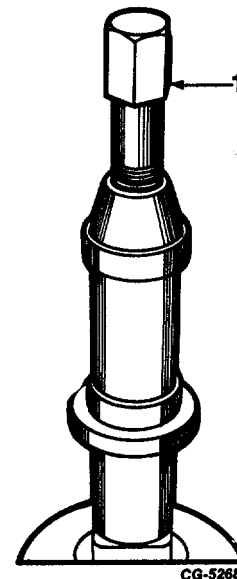

Fig. 27 Bushing Remover SE-1955-5 Installed in Lower Bushing
5. Install bushing remover SE-1955-5 in lower bushing (Figure 27).